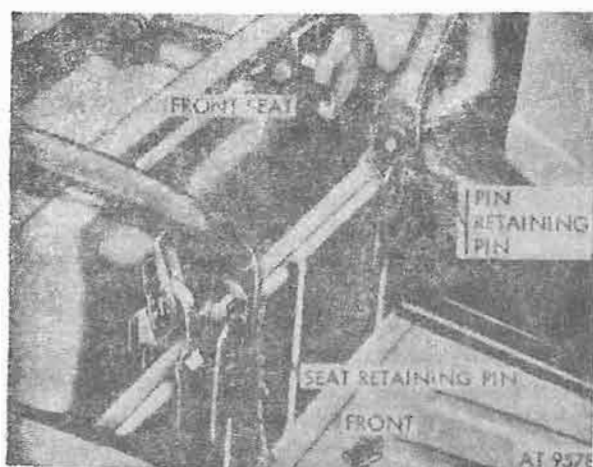

Figure 4-9. Front seat retaining pins.
M718 vehicles. Remove power plant assembly by following the operations given in steps (1) through (34) below and shown in figures 4-9 through 4-54.
(1) Remove the front seat retaining pins located at the bottom of the two front seats (fig. 4-9).
(1) Remove two front seats by unhooking pin that secures retaining pin. Drive retaining pin out of its mounting position (fig. 4-9).